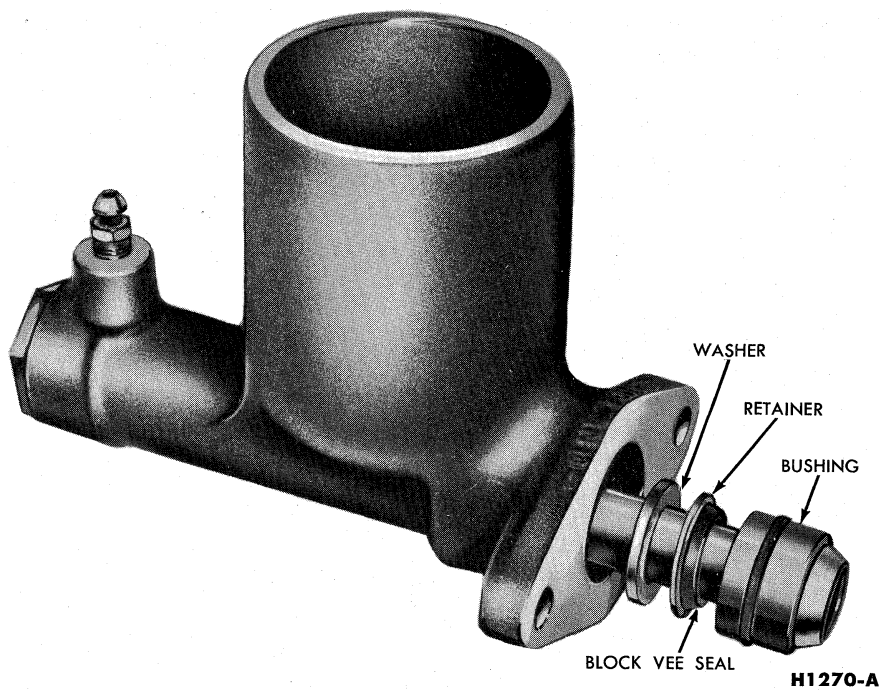

FIG. 29—Assembly of Seal and Bushing Components to Master Cylinder Push Rod
5. Install the O-ring on the bushing. Slide the washer, the retainer, the "Block Vee" type seal, and the bushing onto the push rod (Fig. 29). Take care to avoid damaging the seal when sliding it onto the push rod. Assemble the seal to the retainer flange as shown.